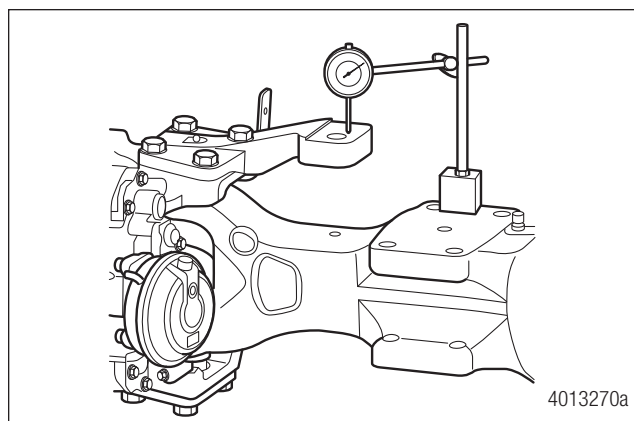

Figure 14.9
2. Install a dial indicator on each end of the axle housing with one indicator point on the steering arm and one indicator point on the king pin cap. Zero both indicators. Figure 14.9.